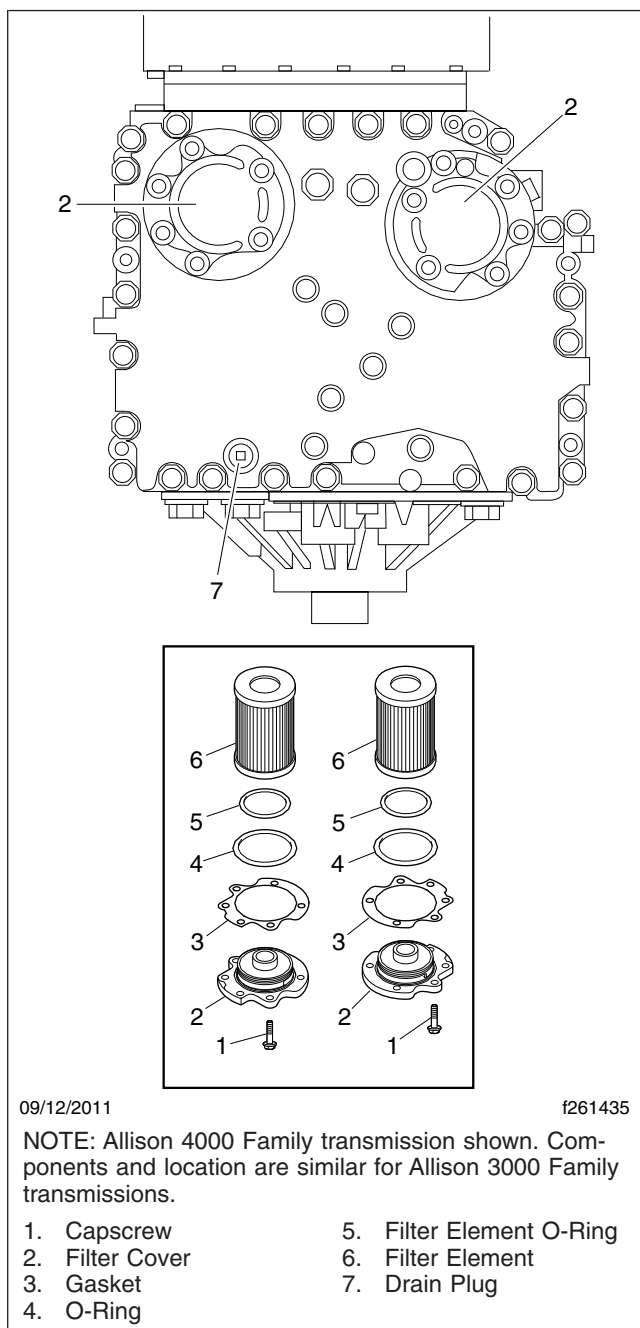

Fig. 8, Allison Transmission Filter Locations and Components
4. Remove the 12 mounting capscrews (six each) from the two filter covers. See Fig. 8.